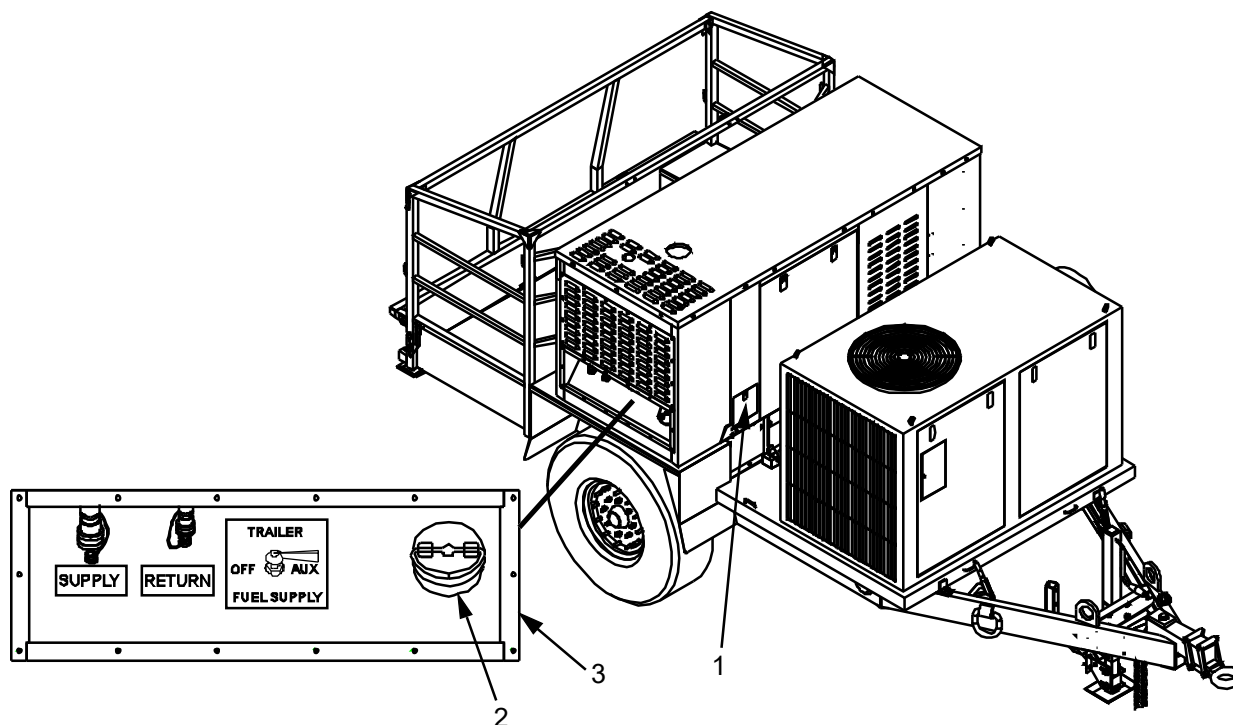

Figure 5. Location of Fuel Control Panel.
Check the fuel level in the trailer fuel tank by viewing the mechanical fuel level indicator located behind a hinged access door (Figure 5, Item 1) between the ECU and the Generator.
1. Check fuel level by opening fuel sight door (Figure 5, Item 1).
2. Remove fuel cap (Figure 5, Item 2) located on Fuel Control Panel (Figure 5, Item 3). A plastic funnel is provided and found in storage compartment.